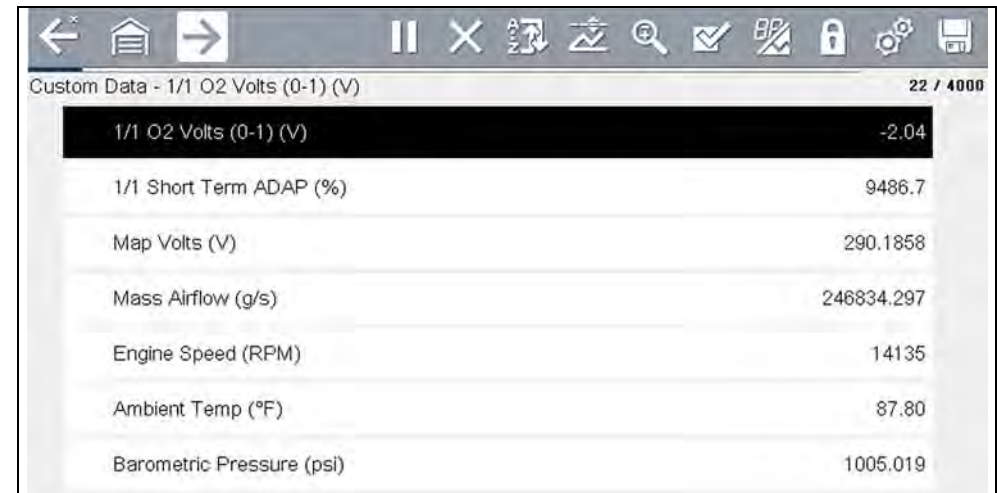

Figure 5-21
4. The custom list displays (*Figure 5-21*).